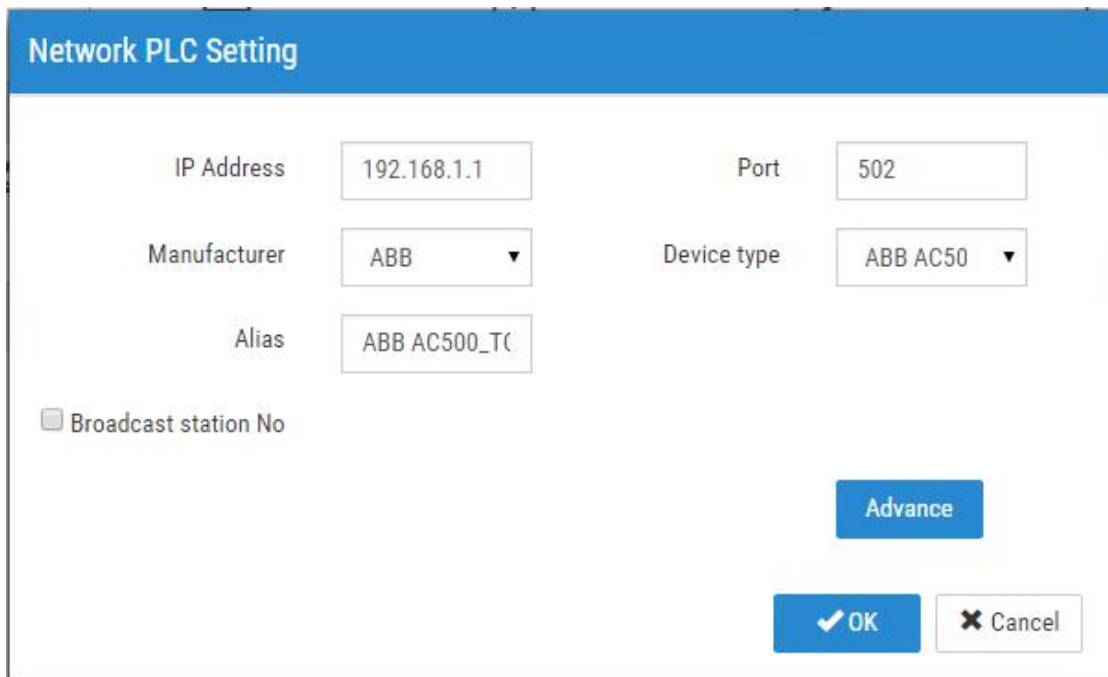

Fig. 4.4-8 The "Network PLC Setting" dialog
(3) After click the "Add" button, the "Network PLC Setting" dialog will pop up, as shown in Fig. 4.4-8. Set the communication parameters of the network PLC such as the IP address, manufacturer, device type, and so on.